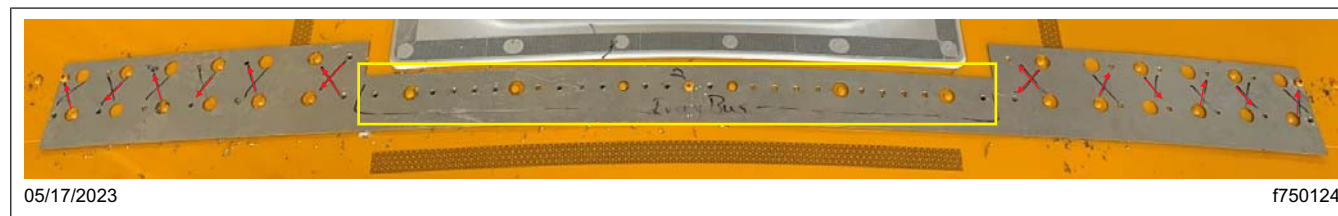

Fig. 20, Identifying the Marking Locations
Do not mark every hole on the fixture. Mark only the holes identified by the arrows and the yellow rectangle in Fig. 20.
30. Once the fixture is secured in place, locate the rivets, and follow the arrows to identify the marking locations. See Fig. 20. Mark all pilot holes falling in the region identified by the yellow rectangle. Use a Sharpie marker to mark the pilot holes for drilling the holes in the roof.